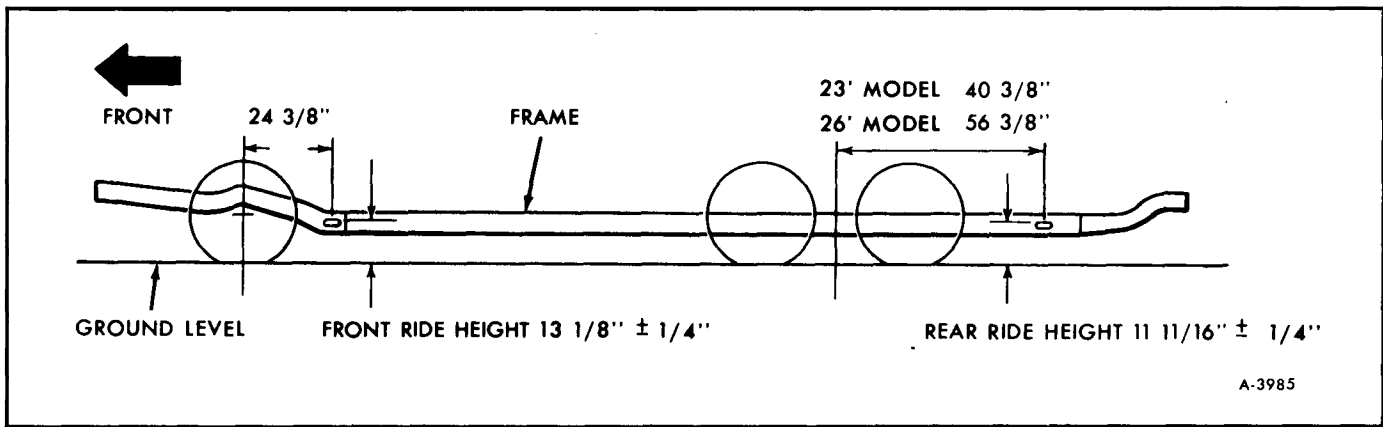

Figure 24—Checking Vehicle Ride Height
(FIGURE 24)
**NOTE:** If all adjustment is used up, check vehicle ride height at frame rail. Refer to figure 24.